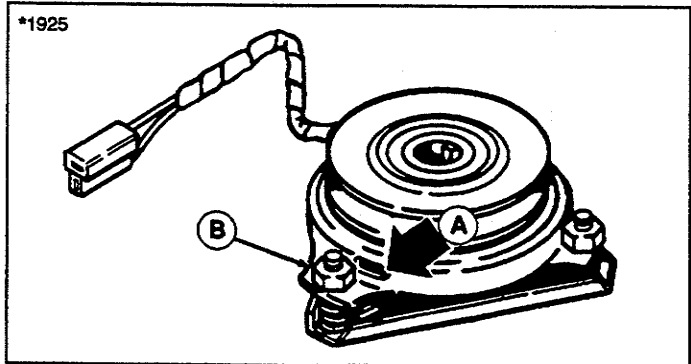

Figure 35. PTO Clutch Adjustment
2. Use a 0.010 - 0.012 feeler gauge to check the PTO at three places. See figure 35. Insert the gauge between the drive spring rivets. There should be a slight resistance as gauge is moved in and out of slot. If adjustment is required, proceed to step 3.